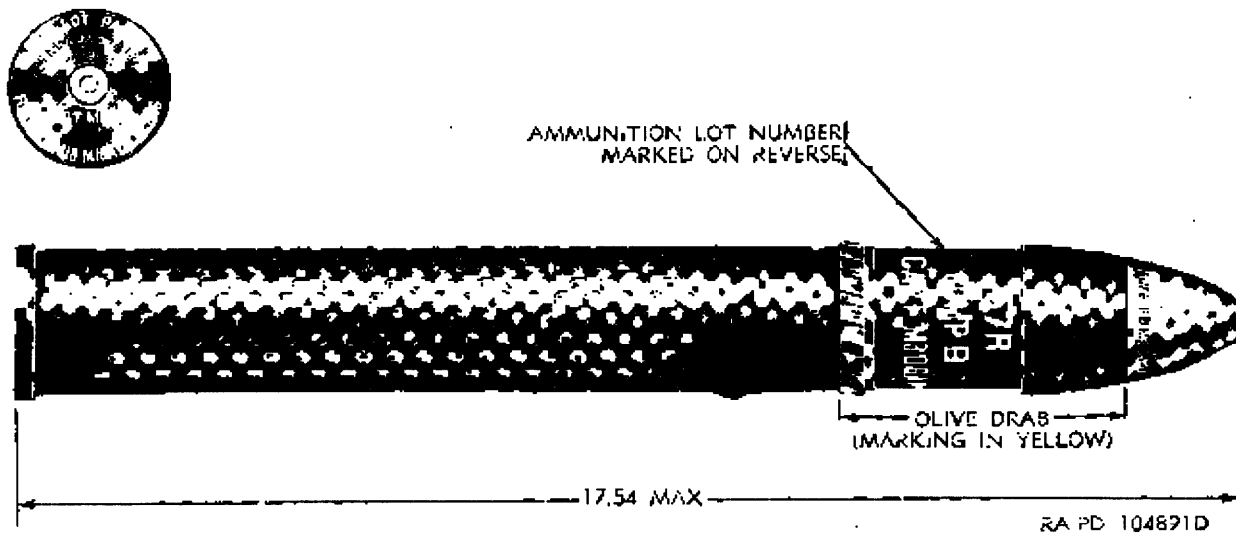

Figure 5. Cartridge, 57 millimeter: HE, M306A1, w/fuze, PD, M503A1.
a. *General.* This cartridge (fig. 5) is intended for blast and fragmentation effect. The plastic-lined cartridge case M30A1 or M30A1B1 is crimped to the high-explosive projectile by means of four equally spaced ball-point crimps. The projectile consists of a relatively thin-walled steel body containing an 0.55-pound explosive charge of Composition B. Cartridges of earlier manufacture contain an 0.52-pound TNT explosive charge. The projectile has a square base, a short internally threaded ogival nose, and an integral preengraved rotating band. A bourrelet to the rear of the ogive and another immediately in front of the rotating band provide bearing surfaces for the projectile during its travel through the rifle bore.